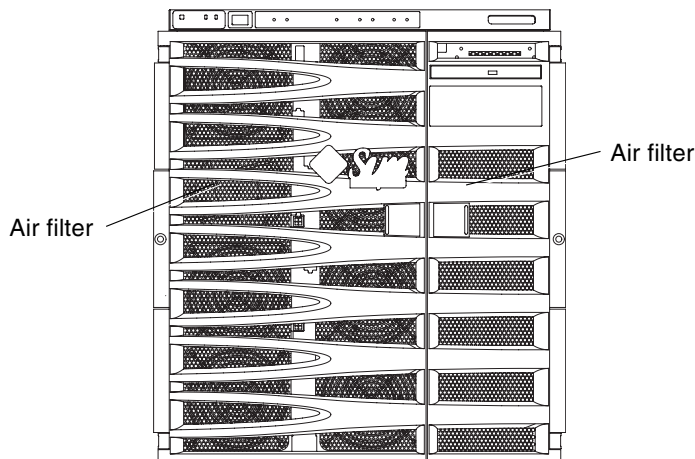
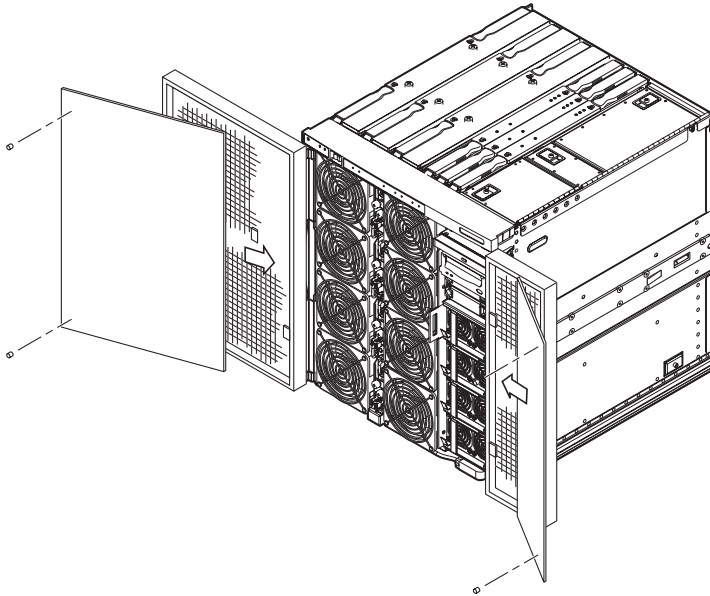

FIGURE 2-4 Location of the Air Filters
FIGURE 2-5 Installing the Sun Fire E2900 System Air Filters
2. Locate the two air filters (FIGURE 2-4 and FIGURE 2-5).
- Reinstall the air filters (FIGURE 2-5).
- If you are going to install replacement filters, install them into the system (FIGURE 2-5).